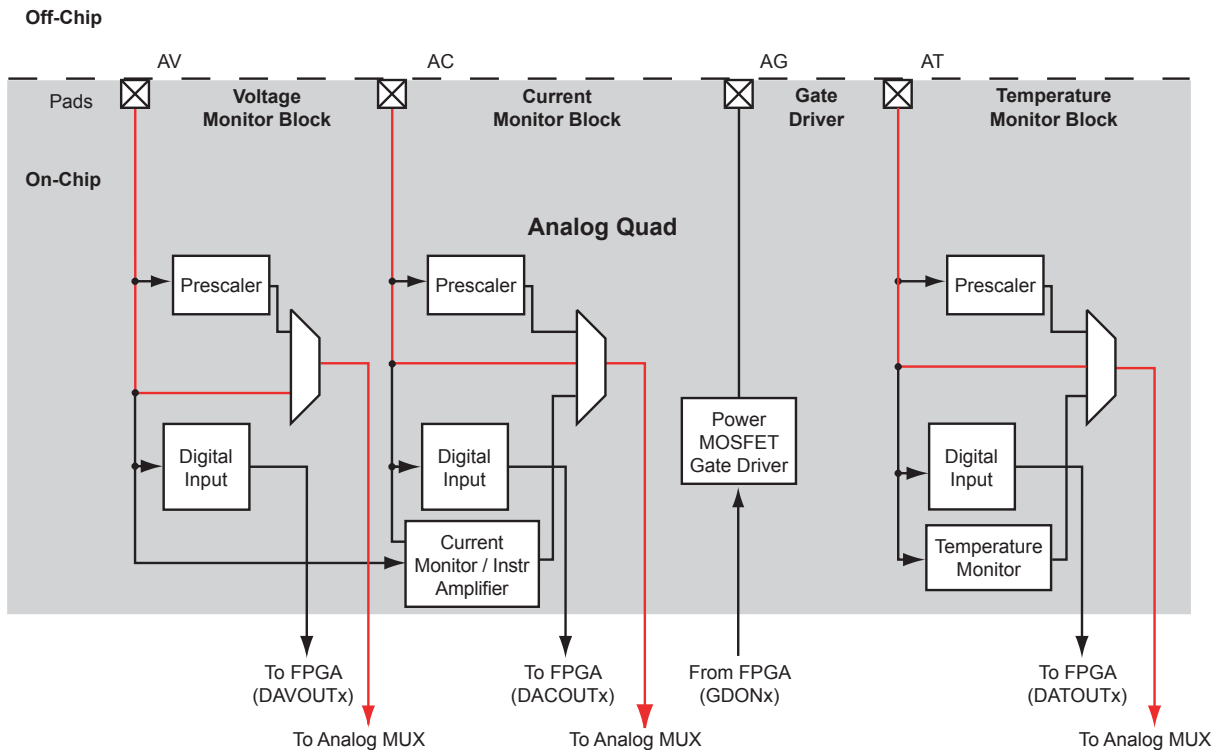

Figure 2-64 • Analog Quad Direct Connect
The Fusion Analog Quad offers a robust set of voltage-monitoring capabilities unique in the FPGA industry. The Analog Quad comprises three analog input pads—Analog Voltage (AV), Analog Current (AC), and Analog Temperature (AT)—and a single gate driver output pad, Analog Gate (AG). There are many common characteristics among the analog input pads. Each analog input can be configured to connect directly to the input MUX of the ADC. When configured in this manner (Figure 2-64), there will be no prescaling of the input signal. Care must be taken in this mode not to drive the ADC into saturation by applying an input voltage greater than the reference voltage. The internal reference voltage of the ADC is 2.56 V. Optionally, an external reference can be supplied by the user. The external reference can be a maximum of 3.3 V DC.